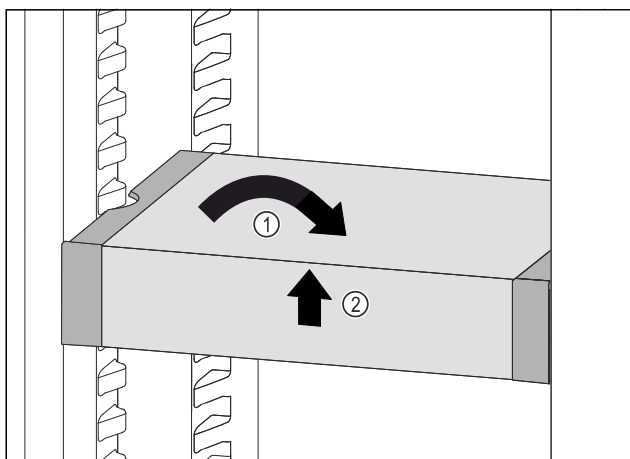

Fig. 100
- Set VarioSafe straight. Fig. 100 (1)
- Lift VarioSafe at the front. Fig. 100 (2)